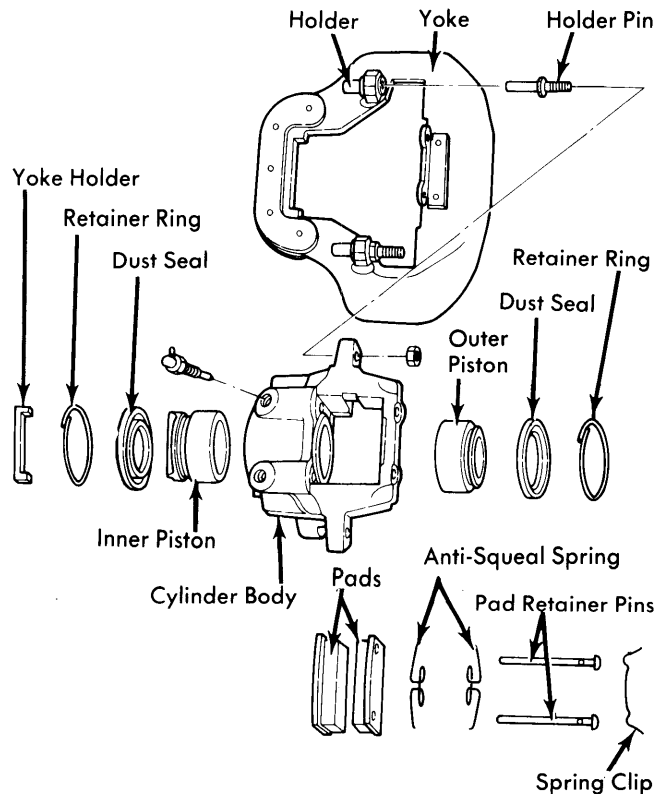

Fig. 3 Exploded View of Front Disc Brake Caliper
**Disassembly** — Drain any remaining fluid from cylinder. Remove holding pin mounting nut, See Fig. 3. Separate yoke and cylinder body from piston. Take off retaining ring and dust seals from both inner and outer pistons. Force pistons from cylinder using compressed air. Carefully pry out piston seals.